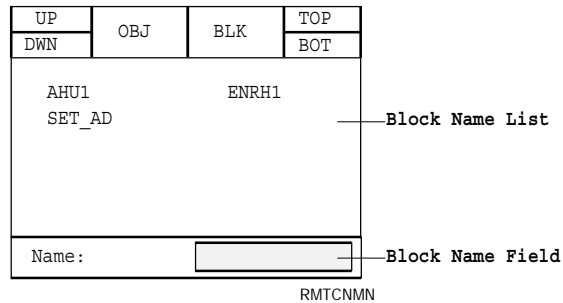

Figure 38: Remote Connection Menu
The remote connection menu (Figure 38) displays while you are making the remote connection. It differs slightly from the direct connection menu.
5. If you need to change the orientation of the remote connection symbol, click the right/middle button. Figure 38 shows the different orientations. If you click and the orientation does not change, move the symbol closer to the middle of the work area.